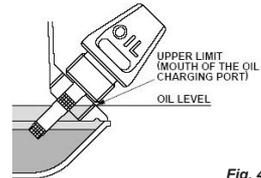

Fig. 4
3. Pour the oil into the oil fill hole so that it fills the tank as illustrated in fig. 4.
5. Remove the oil fill plug/dipstick again and check the oil level. Oil should be between the add and fill marks. (fig. 4)